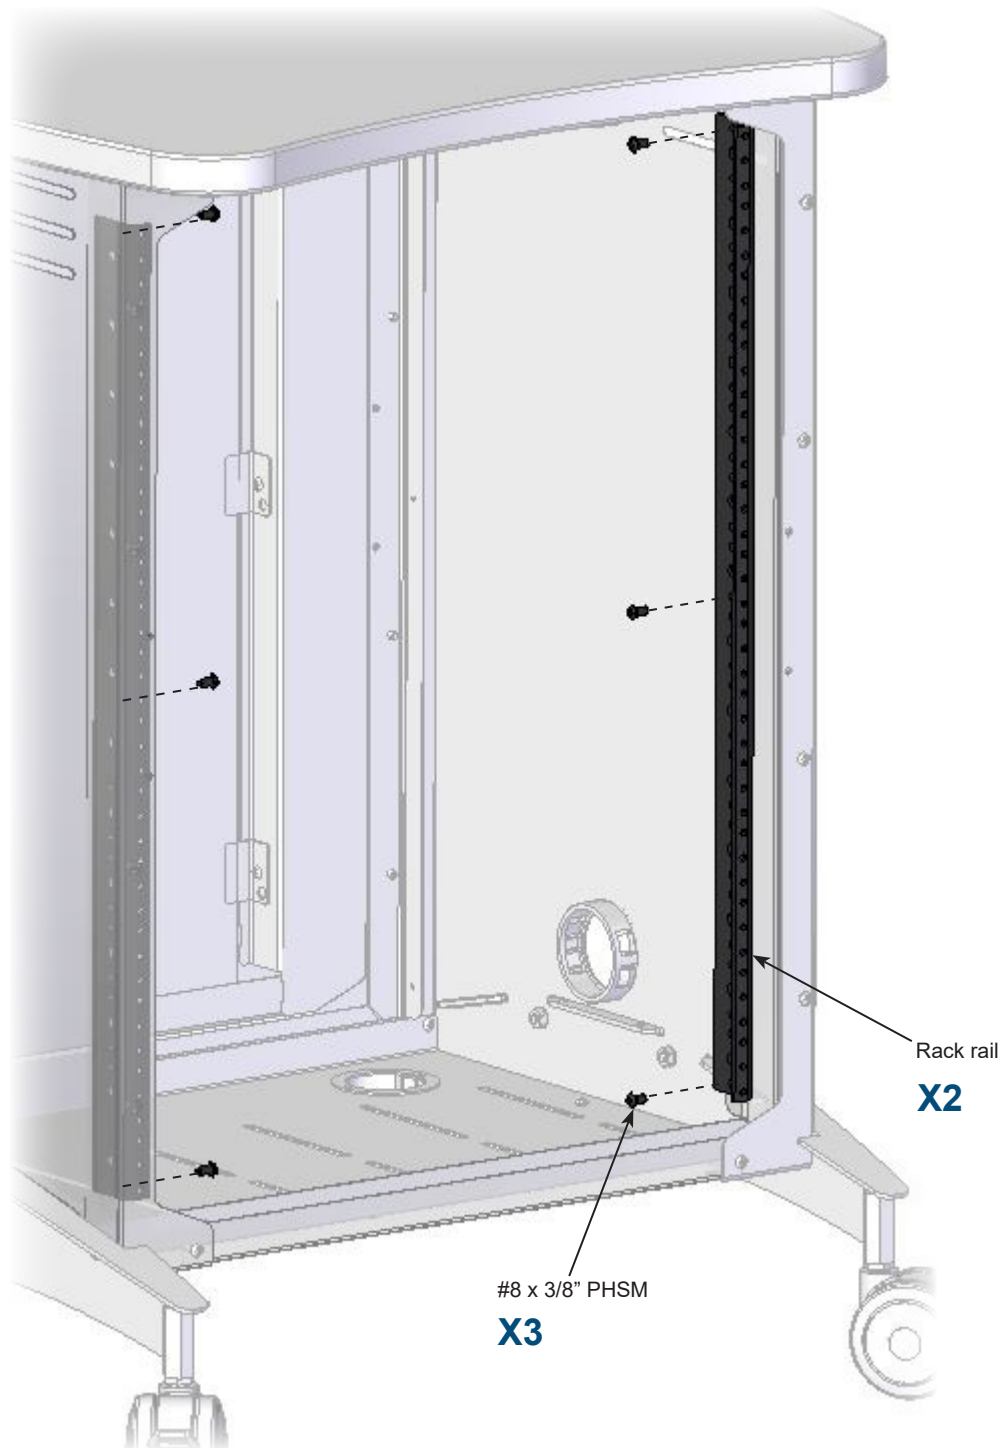

Figure 7
1. Align the rack rails as shown (short legs facing inward) and attach each to a frame with (3) #8 x 3/8" PHSM screws. **Figure 7.**